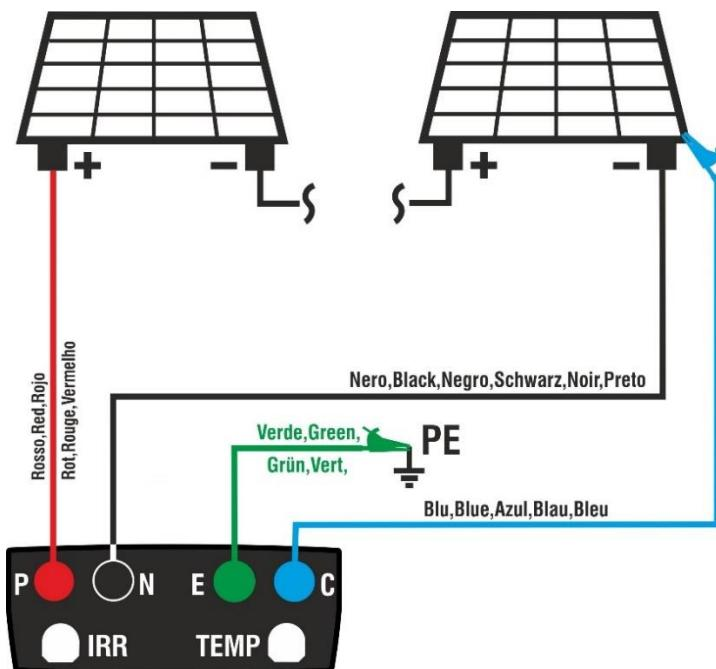

Fig. 11: Connection for IVCK tests without remote unit and without irradiance
8. Connect the instrument to the PV module/string being tested and to the main earth node of the system, and to the metal masses connected to earth as shown in Fig. 11. In particular, connect the negative output pole of the PV module/string to terminal **N** and the positive output pole of the PV module/string to terminal **P**.